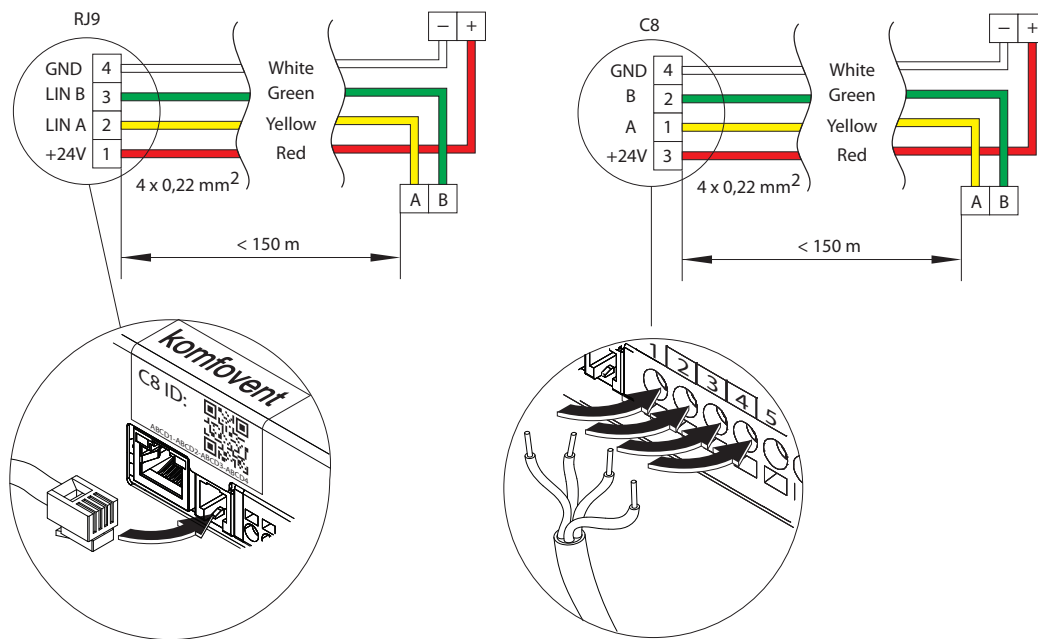

Fig. 14. Control panel cable wiring diagram
- Control panel (see. Fig. 14)
- **Outputs TG1 (6–8)** – Power supply and control signal for a water mixing valve actuator of the external heat exchanger or direct evaporation (DX) cooler/heater. Depending on the “External coil” type selected in the settings (see “Domekt User Guide”), the valve actuator will be controlled by a heating or cooling signal. An external pre-heater for frost protection of the CF heat exchanger may also be connected here.
Control panel cable is connected to the C8 main board as shown in Fig. 14. The exception is the R 200 V unit, where, if needed, the panel cable can be also connected to an external RJ10 connector.